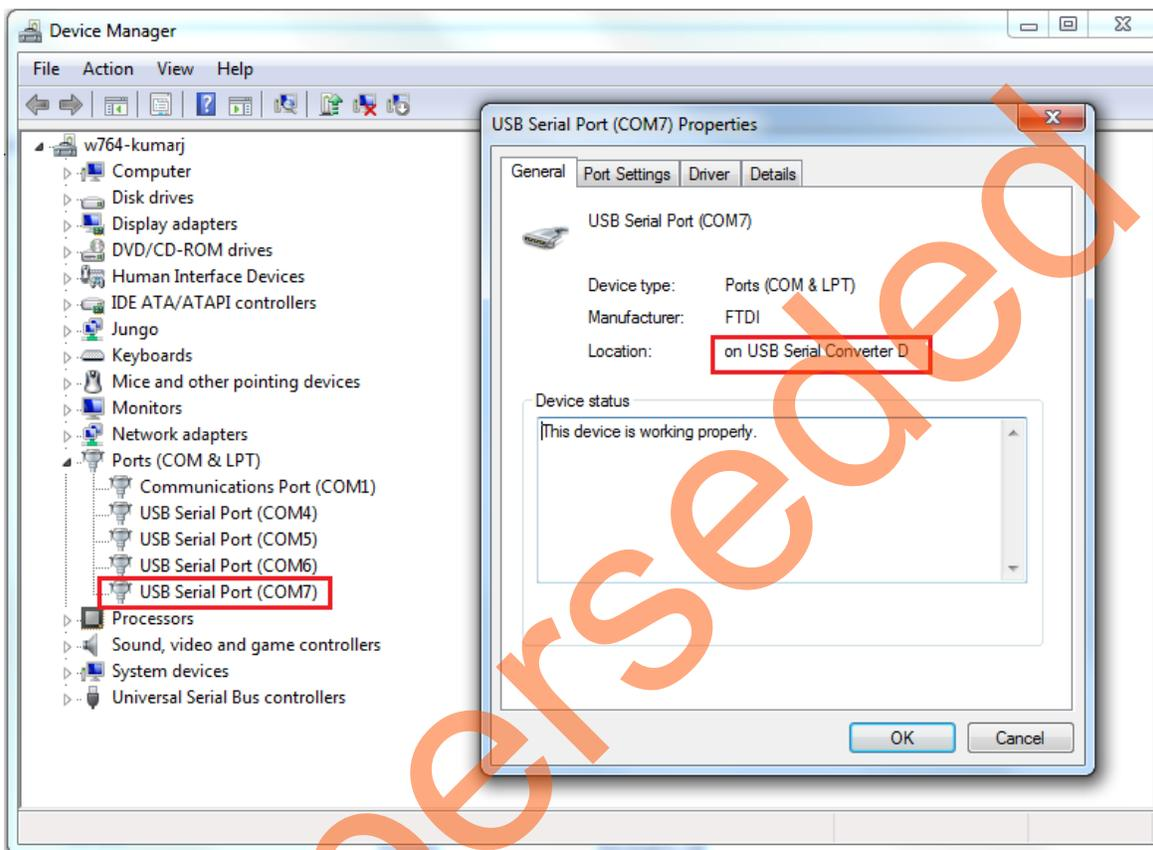

Figure 15 • USB Serial 2.0 Port Properties
5. Ensure that the USB to UART bridge drivers are automatically detected. This can be verified in the **Device Manager** of the Host PC. The FTDI USB to UART converter enumerates four COM ports. For USB 2.0, note down the USB Serial Converter D COM port number to use it in the GUI. Figure 15 shows the USB 2.0 Serial port properties. As shown in Figure 15, COM7 is connected to USB Serial Converter D. Refer to "Appendix B: Finding Correct COM Port Number when Using the USB 3.0" on page 32 for finding the correct COM port in USB 3.0.